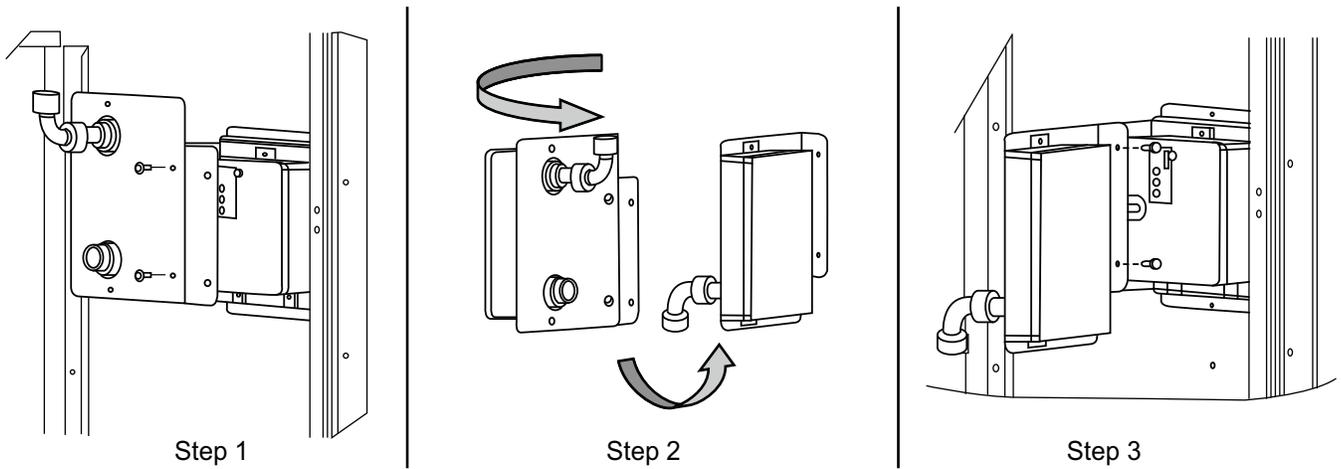

Fig. 55 — Completing Installation of Return-Air Smoke Sensor
1. Unscrew the two screws holding the return air smoke detector assembly. See Fig. 55, Step 1. Save the screws.
2. Turn the assembly 90 degrees and then rotate end to end. Make sure that the elbow fitting is pointing down. See Fig. 55, Step 2.
3. Screw the sensor and detector plate into its operating position using screws from Step 1. See Fig. 55, Step 3.